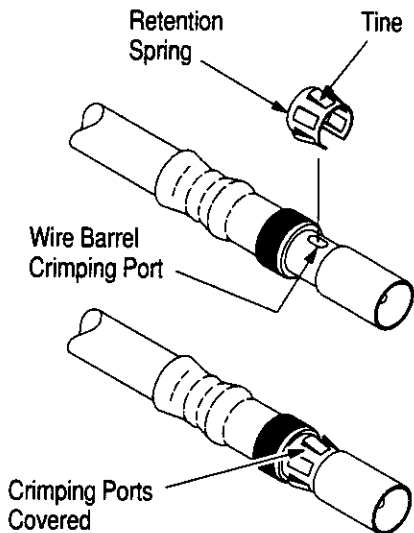

Figure 6
**6. ATTACHING RETENTION SPRING** (Figure 6)